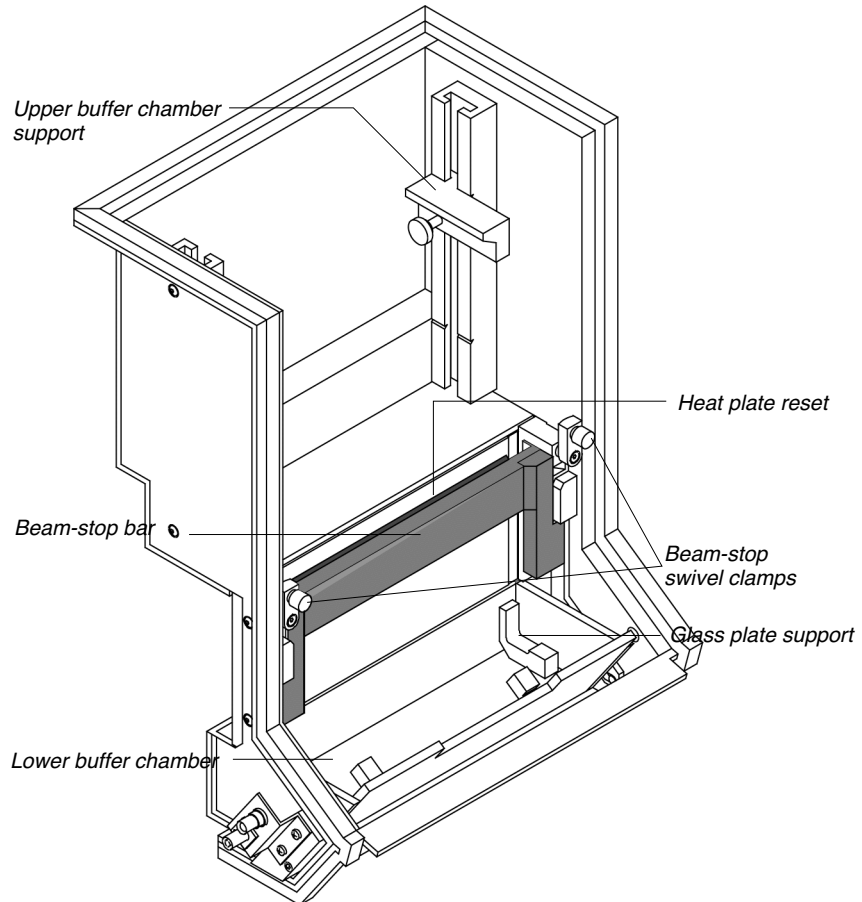

Figure 3-4. Model 373 (Leon) Electrophoresis Chamber
- a. Pull the black beam-stop bar in the electrophoresis chamber towards you until it stops (Figure 3-4 on page 3-10).